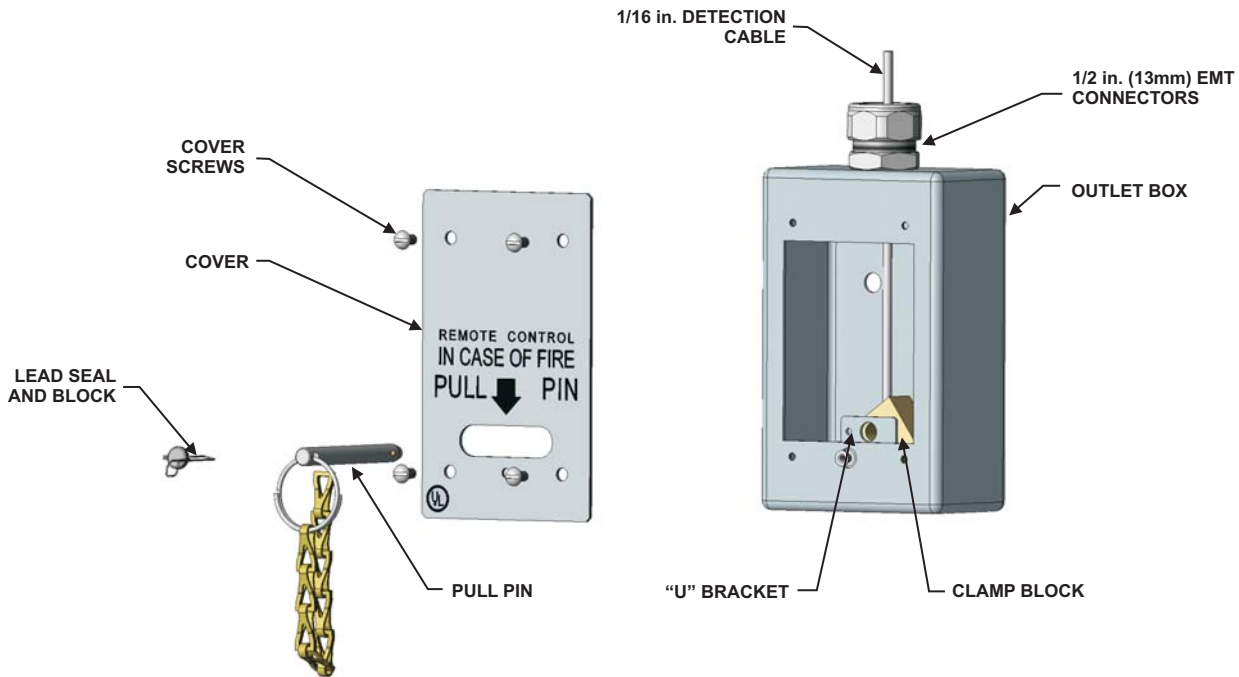

Figure 4-55. End-of-Line Remote Manual Control, P/N 9197463
5. Before replacing the cover plate, a lead seal and wire (or equivalent) must be fastened through the ring of the pull pin and through the front hole of the "U" bracket (Figure 4-55).
3. Run the cable down through the vertical conduit to an end-of-line Surface Mounted Manual Control Box. Insert cable through conduit connector on one side of the roll pin (Figure 4-55).